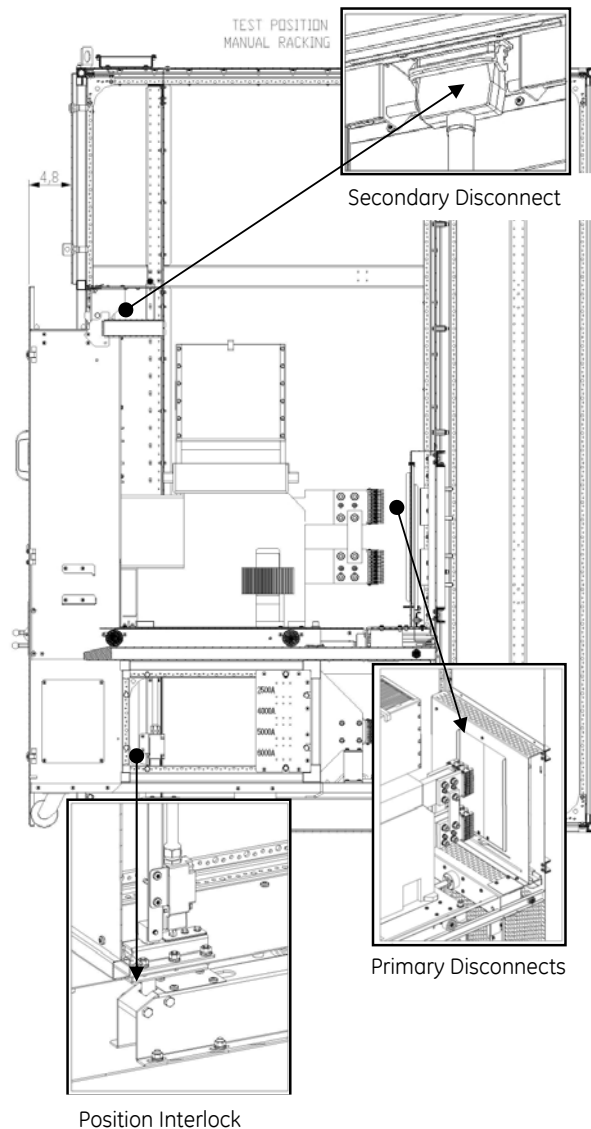

Fig. 72-2 TEST position of the trolley
2. **TEST position** - Primary Disconnect separated by a safe distance and shutters closed. The Secondary Disconnect is in full contact. Trolley is withdrawn ~5 inches and locked by Position Interlock. See Fig. 72-2.